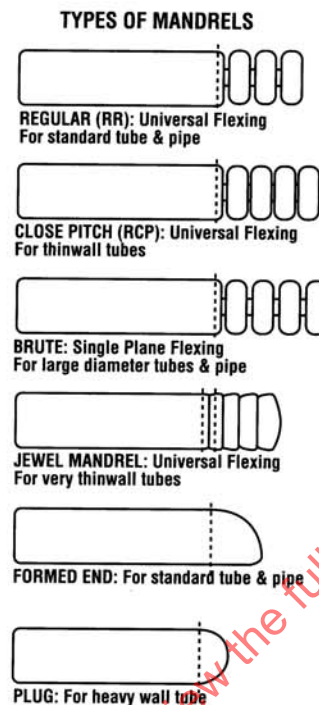

FIGURE 10—Types of Mandrels
7. TYPES OF MANDRELS (Figure 10):